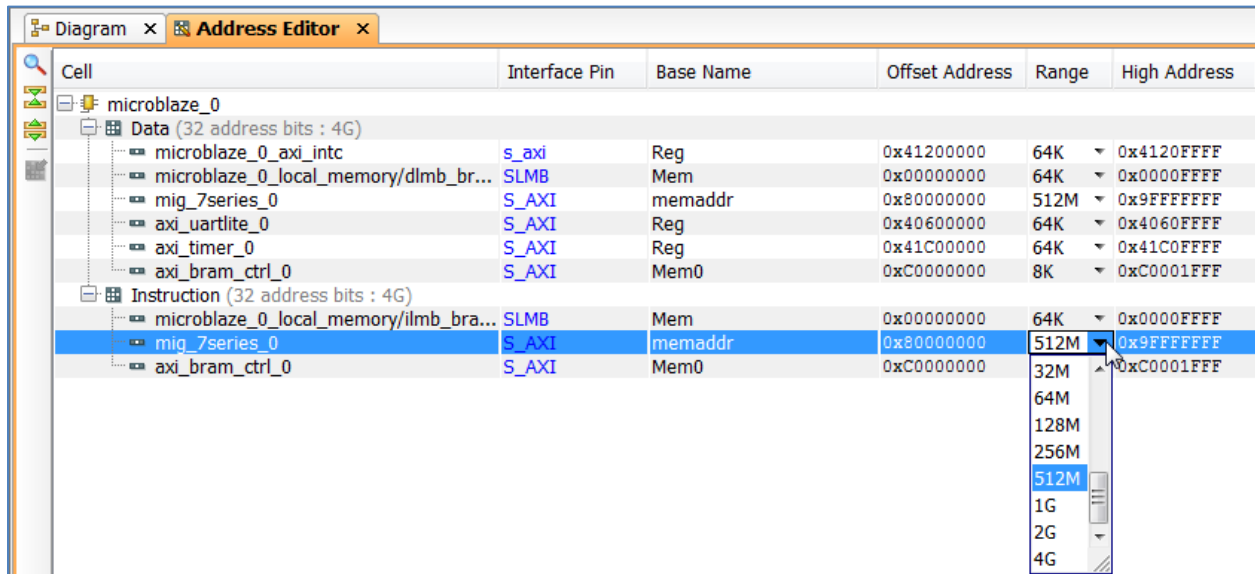

Figure 114: Data and Instruction Set to 512 MB
- a. Change the range of mig_7_series_0 IP in both the **Data** and the **Instruction** section to **512 MB** (FIGURE 114).